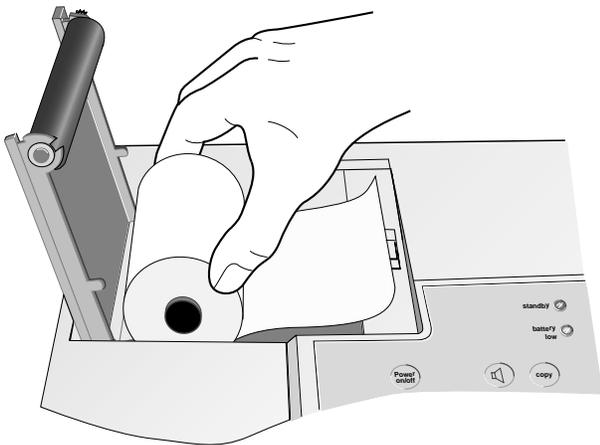

Figure 10-2. Inserting the new pad
- Slide new roll on axle and insert as shown in Figure 10-2.